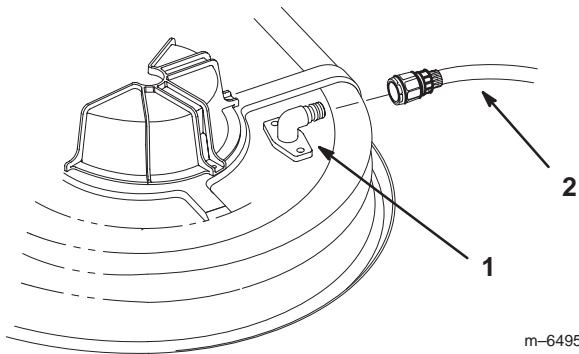

Figure 50
3. Attach the hose coupling to the end of the mower washout fitting, and turn the water on high (Fig. 50).